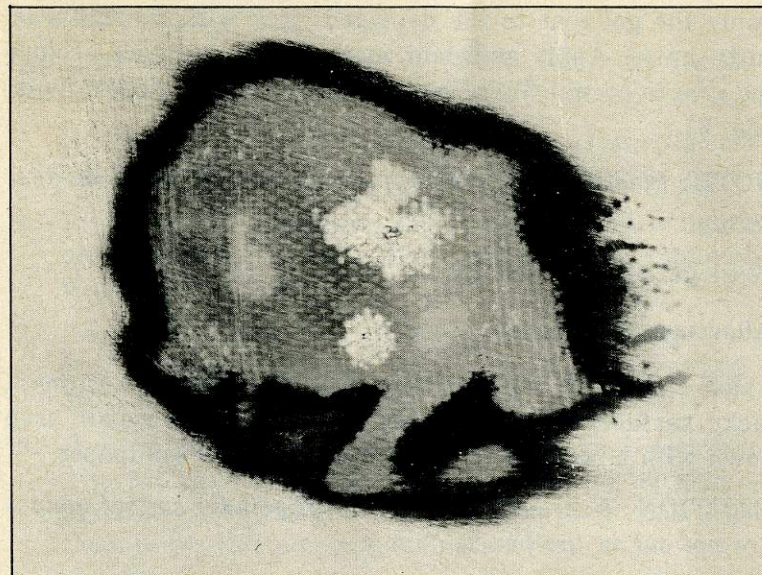

Figure 5
2. Scuff area surrounding damaged area to provide a good bonding surface (fig. 5).